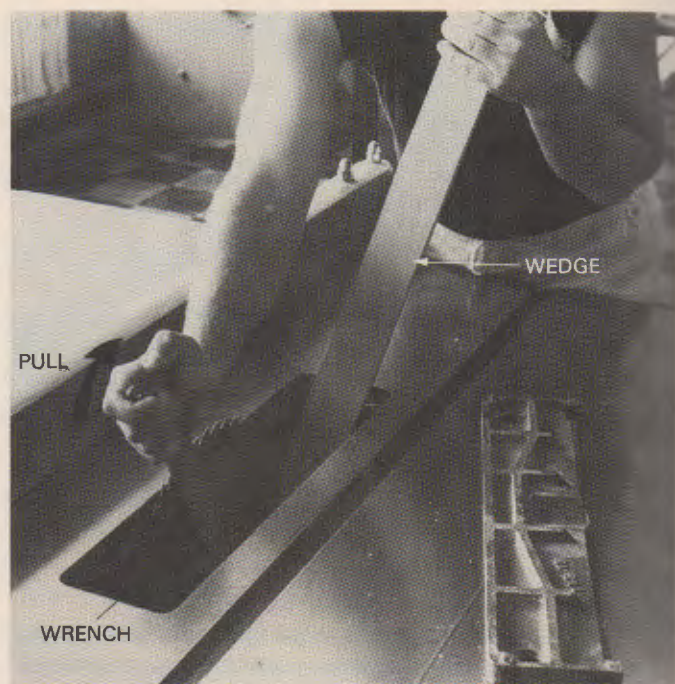

Fig. 21-6. To remove the blade, pull the wrench from in front of the machine.
5. Pull the wrench toward the front of the saw to loosen the nut, Fig. 21-6.